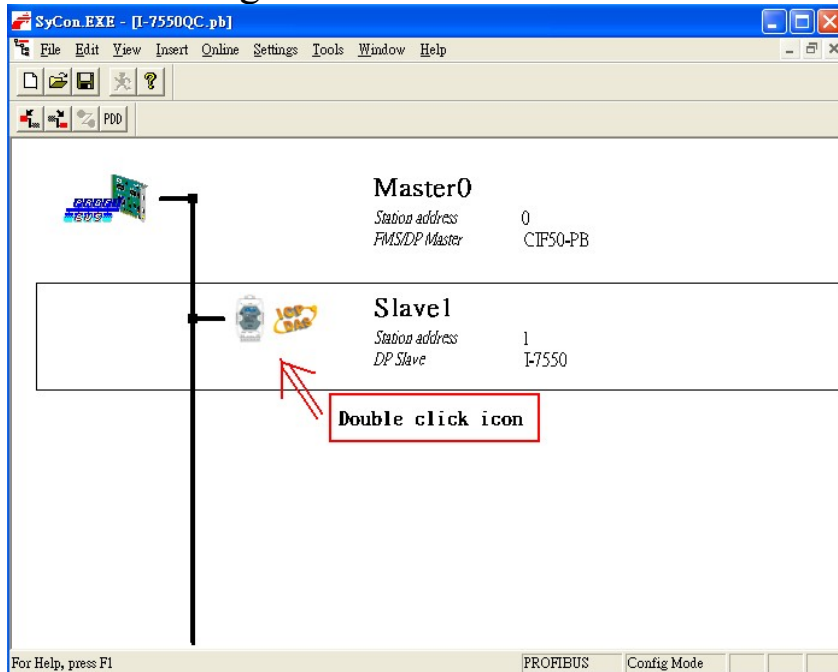

Figure 28 Double click the i-7550’s icon to enter the Slave configuration dialog
Step 5: Configure and arrange the device modules of the i-7550. It arranges one “system setting module”, one “9 Byte In module” and one “8 Byte Out module” in this demo as shown in figure 28 and 29.